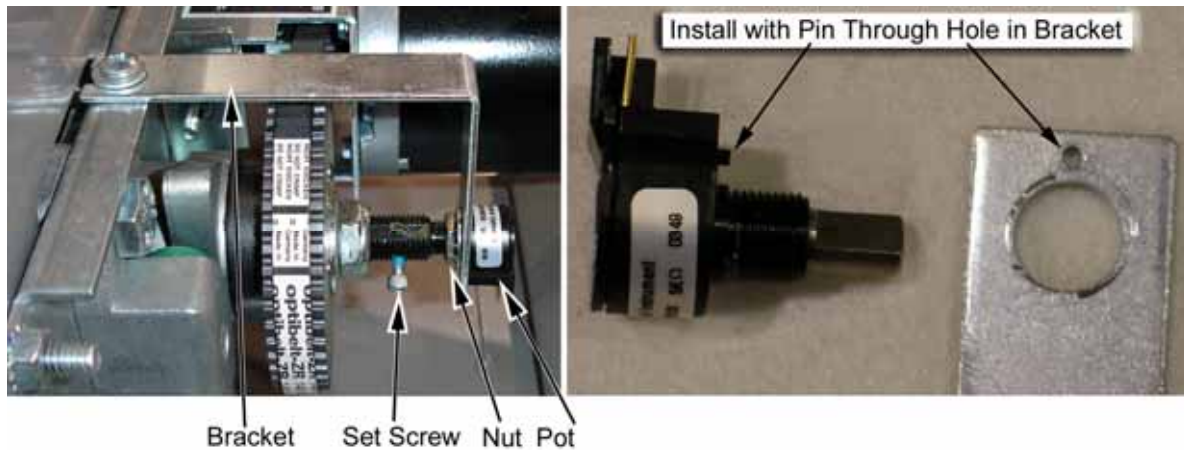

Figure 17. Replacing the 5 K Ω Steering Pot
To replace a pot, refer to Figure 17 and perform the following steps:
4. Reverse these steps to install the new pot. Install the pot with the plastic pin through the small hole in the bracket, as shown in Figure 17 below. Use Loctite to ensure the set screw is secure.
Refer to Figure 17 above, and Figure 18, and perform the following steps to remove the force-feedback belt for repair. Always replace the belt if it looks cracked or worn.
2. Using a 7/64 Allan wrench, loosen the set screw from the steering column and remove the bracket with the pot attached (see Figure 17).